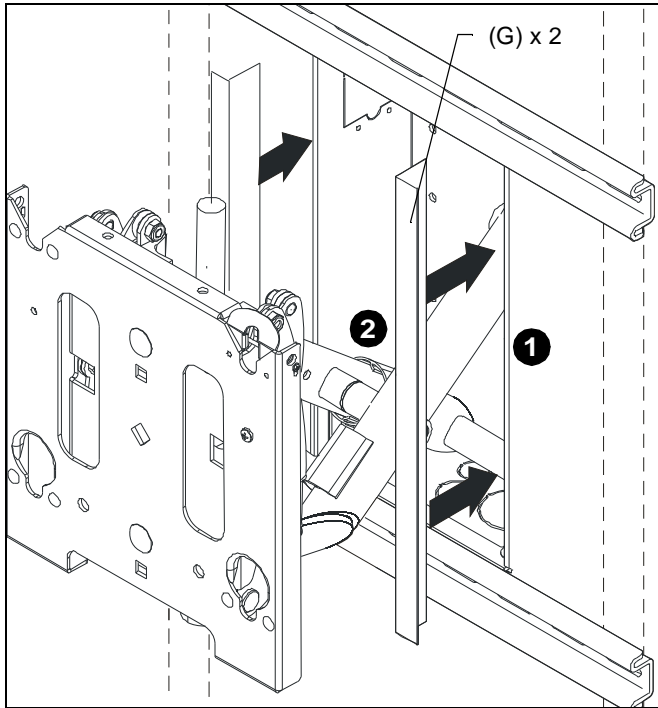

Figure 9
1. Orient two trim pieces (G). (See Figure 9)
2. Slide slat in trim edge over lip in mount enclosure and press trim (G) onto enclosure. (See Figure 9)